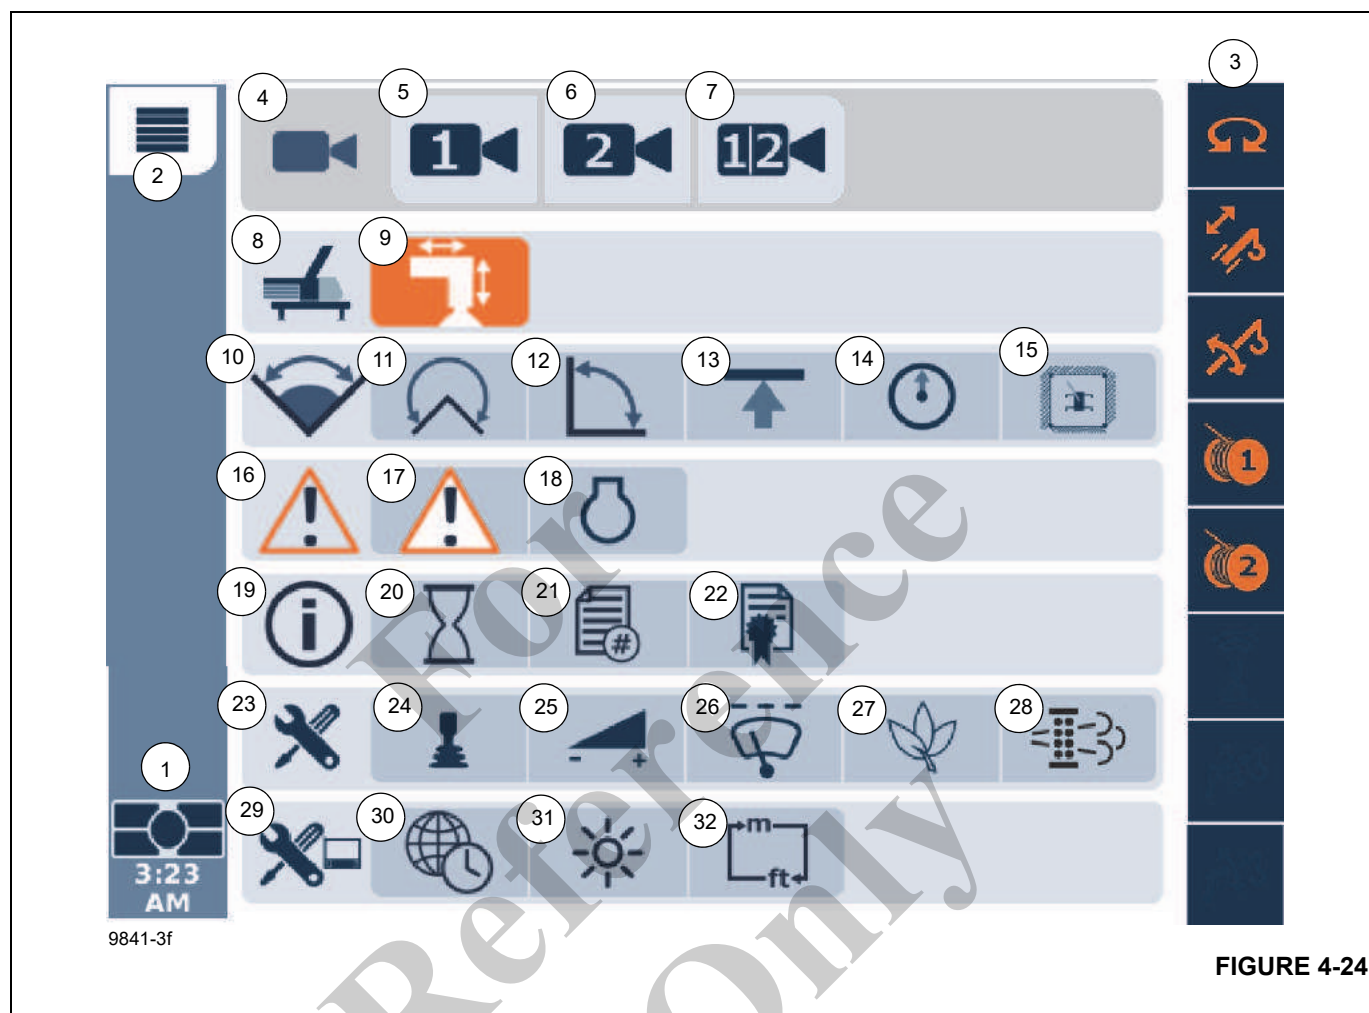
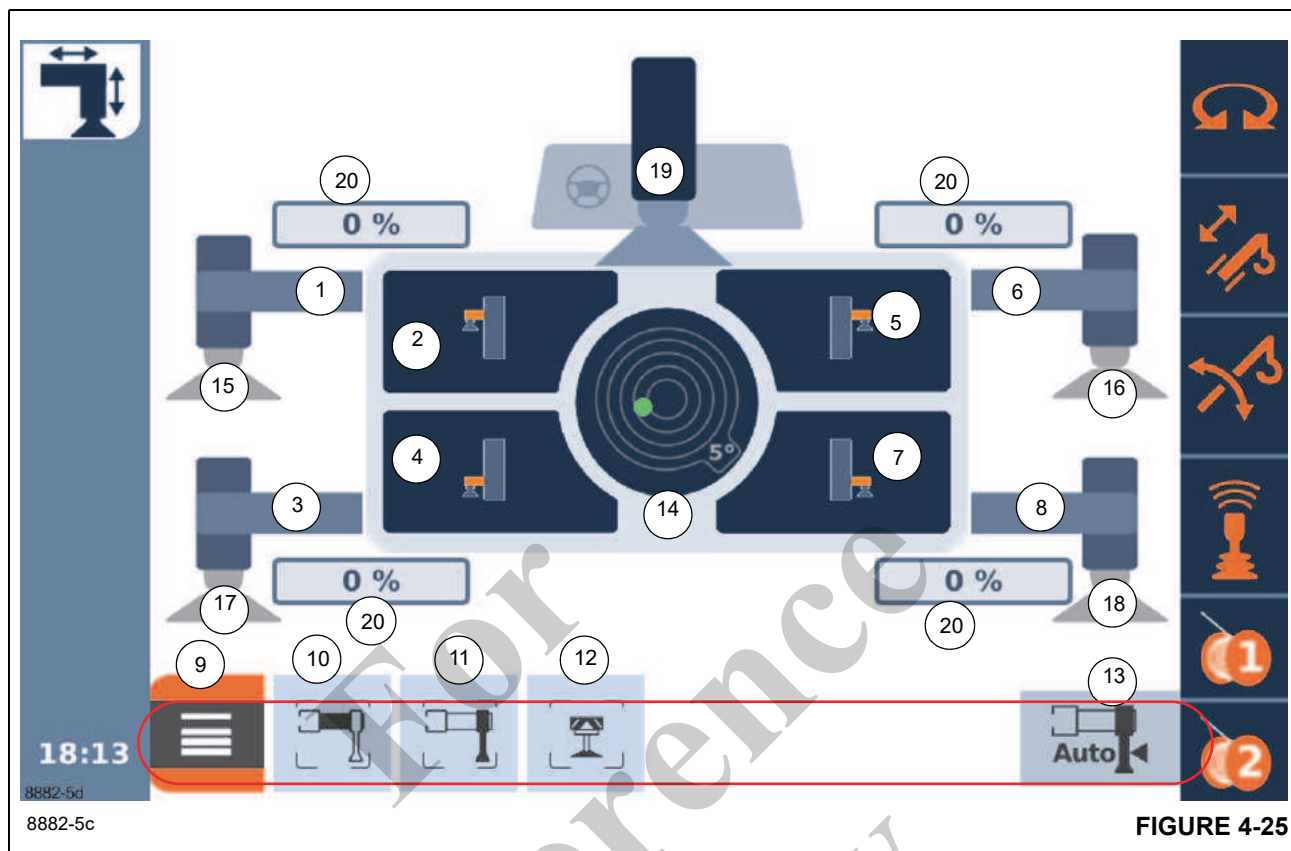

FIGURE 4-24
FIGURE 4-25
The Menu Screen (Figure 4-24) of the ODM is accessed by doing one of the following:
- **Camera Group Menu (Optional)** (4), (Figure 4-24) (Refer to *Camera Group (Optional) Display on ODM*, page 6-15 for additional information).
- **Crane Function Group Menu** (8), (Figure 4-24) (Refer to *Crane Function Group Menu*, page 4-42 for detailed information).
- **Working Range Limiter (WRL) Group Menu** (10), (Figure 4-24) (Refer to *Working Range Limiter (WRL) Menu Group*, page 4-48, for detailed information)
- **Errors (Fault Code) Group Menu** (16) (Figure 4-24) (Refer to *Using the Rated Capacity Limiter Display Module (RDM)*, page 4-82 for detailed information)
- **Information Group Menu** (19), (Figure 4-24) (refer to *Information Group Menu*, page 4-70, for detailed information)
- **Tools Group Menu** (23), (Figure 4-24) (Refer to *Tools Group Menu*, page 4-74 for detailed information)
- **Tools User Settings Group Menu** (30) (Figure 4-24)
The Camera Group Menu (4), (Figure 4-24) includes the Camera View 1 (5), Camera View 2 (6), and Camera View 1 and 2 (7), (Figure 4-24). For additional information, refer to *Camera Group for Crane Operation (Optional)*, page 6-14.
The Crane Function Group Menu (8), (Figure 4-24) includes the Outtrigger Group Function (9), (Figure 4-24) and (Figure 4-25).
The Outtrigger Group (9), (Figure 4-24) is used to deploy and monitor the outriggers. The Outtrigger Extend/Retract Function Screen (9), (Figure 4-25) is used to extend and retract the outrigger beams and jacks.
Access the Outrigger Group Function screen (Figure 4-25) of the ODM by doing one of the following:
Using the Jog Dial (5), (Figure 4-22) to select the Outrigger Group Function Icon (Figure 4-25). **Note:** The Outrigger Group Function Screen Icon is shown in the top left of the screen (Figure 4-25).
Using the Arrow Buttons (4), (Figure 4-21), choose and select the Outrigger Group Function Icon (Figure 4-25), then press the OK Button (6), (Figure 4-22) to activate the desired function.
The Outrigger Group Function screen will appear as shown in the red circle in Figure 4-25. A Table of the Outrigger Icons follows:
Control Pad, select the O/R Beam Icon (Figure 4-25) (Icon will turn orange when selected).